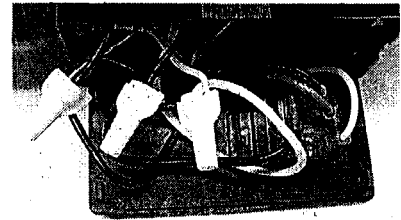

Fig. 3
8. Cut off the yellow 120-volt wire nuts from each of the black, white and ground wires. Discard all original yellow wire nuts (Fig. 3).